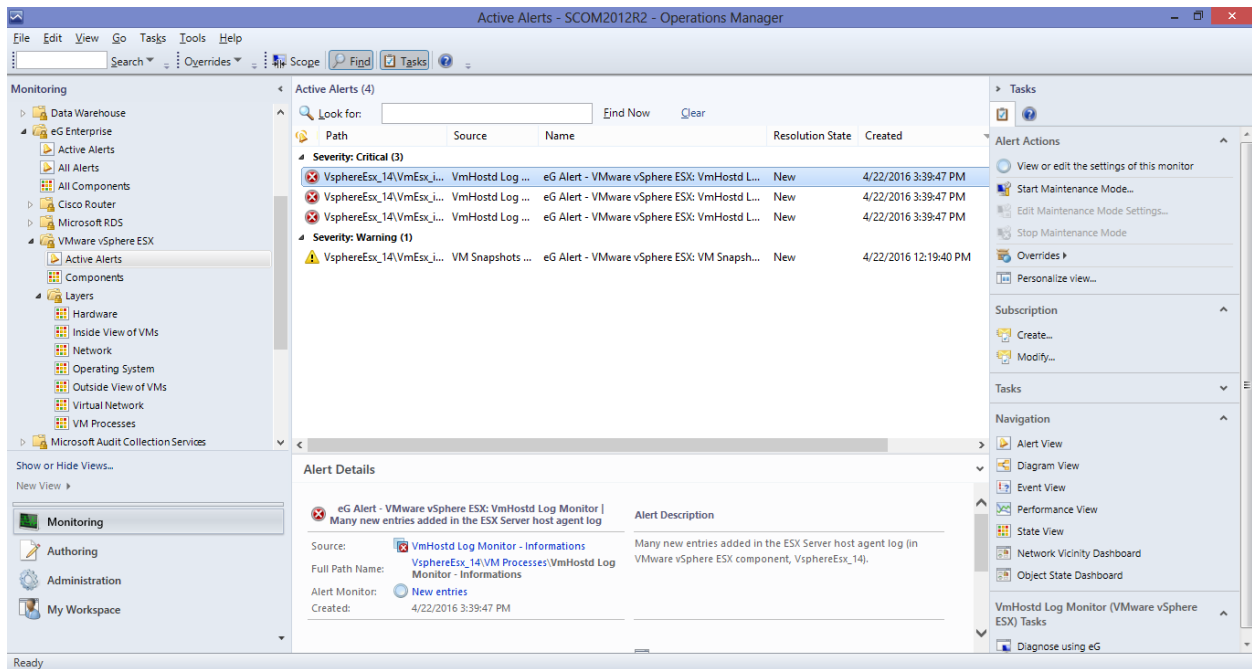

Figure 3.15: Viewing the active alerts of VMware vSphere ESX servers
To view the open alarms related to VMware vSphere ESX servers, click on the **Active Alerts** sub-node. Figure 3.15 will then appear.
3. In the right panel of Figure 3.15, you can view all the currently unresolved issues pertaining to VMware vSphere ESX servers, grouped by severity.